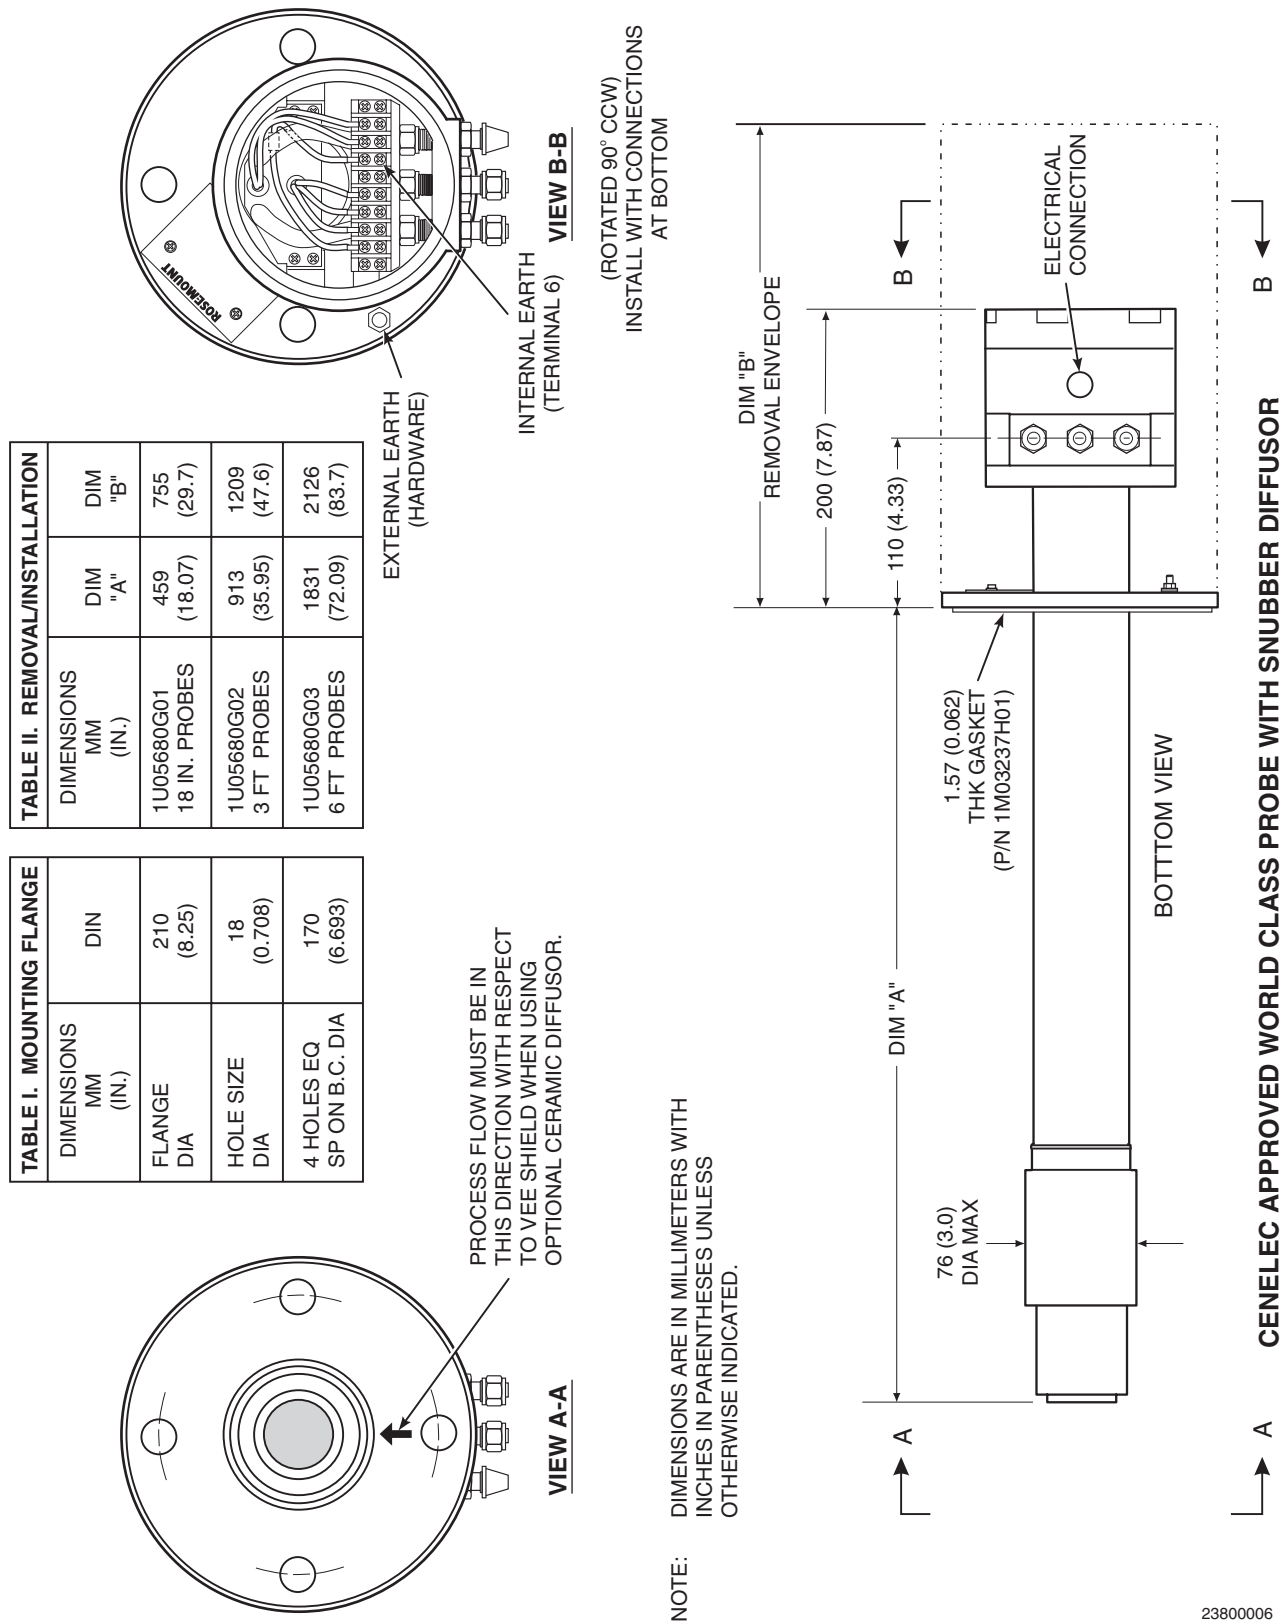

Figure 2-1. Probe Installation (Sheet 1 of 5)
3. Weld or bolt adapter plate (Figure 2-1) onto the duct.